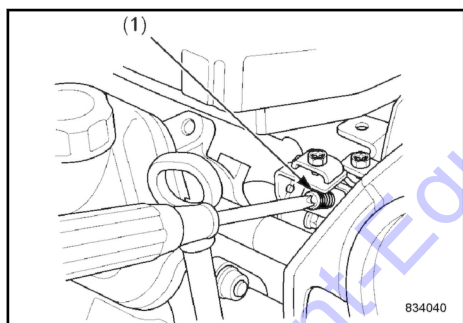

Fig. 178
2. Adjust the engine idling speed with the setscrew (1) ↻ Fig. 178.